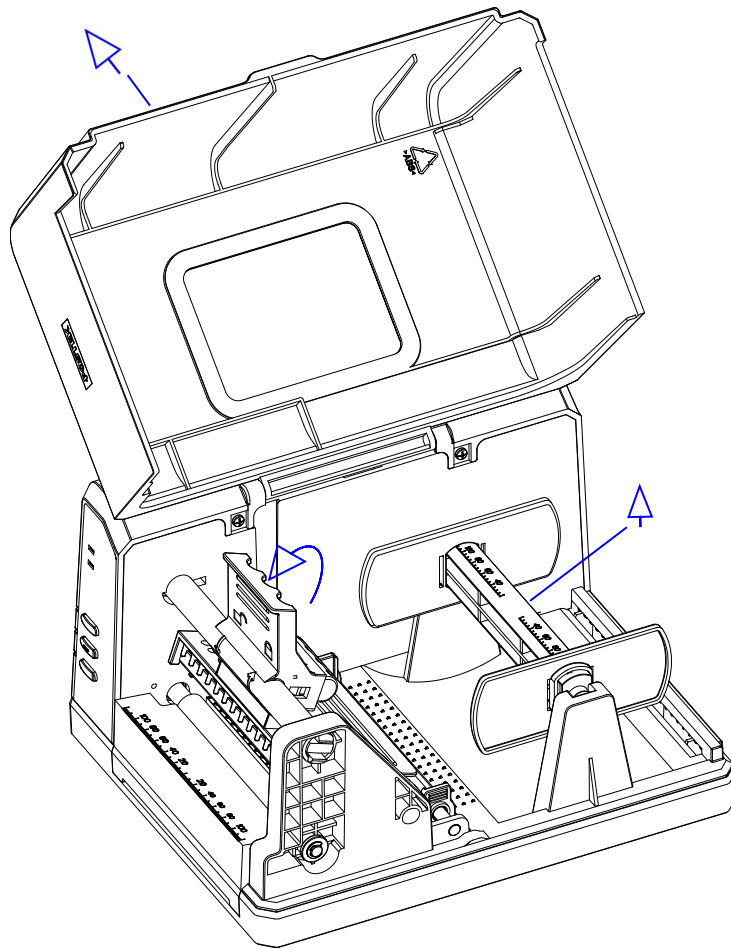

Figure 5-1
1. Lift up the top cover to expose the media compartment (see Figure 5-1).